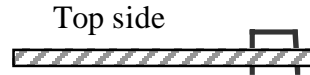

Figure 3
- At the ends of the board you'll find two short jumper locations, each labeled with a ground symbol (\perp). Use component leads to make 3/4" (19 mm) U-shaped wires for each jumper (see Figure 3). Solder the jumpers on the bottom side, keeping the top of the U-shape approx. 1/4" (6 mm) above the board.